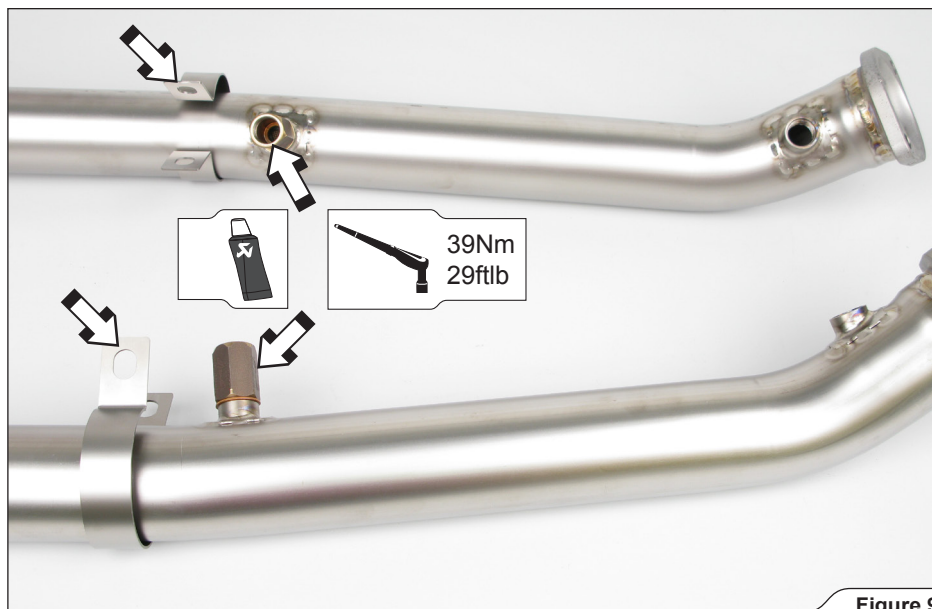

Figure 9
1. **For Evolution:** set the Akrapović headers with additional Akrapović clamps (**Figure 9**).